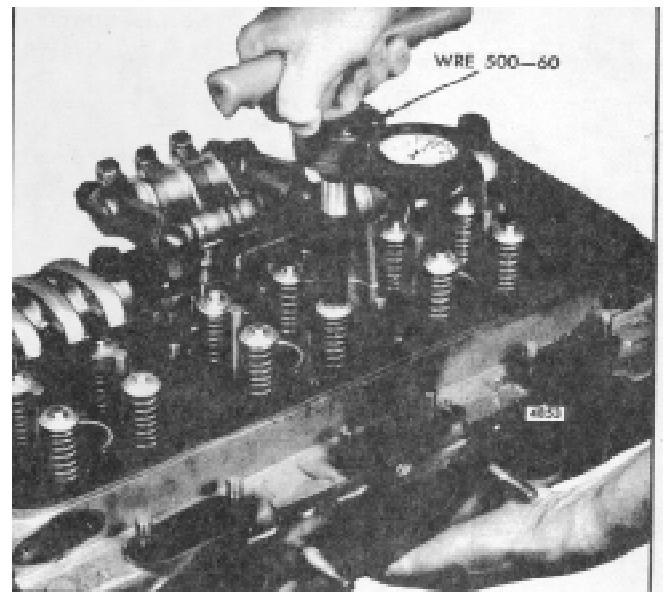

Fig. 20. Checking Pressure Required to Open the Exhaust Valve in Cylinder Head
10. With the exhaust valves installed in the cylinder head, refer to Fig. 20 and, using spring checking gage WRE 500-60, note the gage reading the